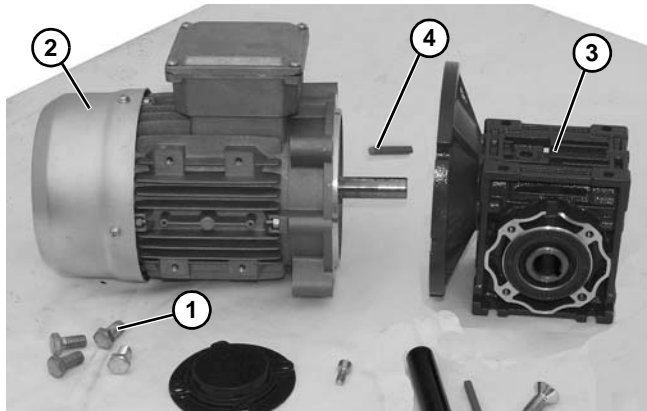

Figure 21
6. Remove four screws (**Figure 21, item 1**). Detach motor (**Figure 21, item 2**) from gear reducer (**Figure 21, item 3**). Retain shaft key (**Figure 21, item 4**).
13. Apply anti-seize to motor shaft before assembling to gearbox. With key (**Figure 21, item 4**) in keyway, slide motor (**Figure 21, item 2**) and gear reducer (**Figure 21, item 3**) together. Install screws (**Figure 21, item 1**) and tighten.